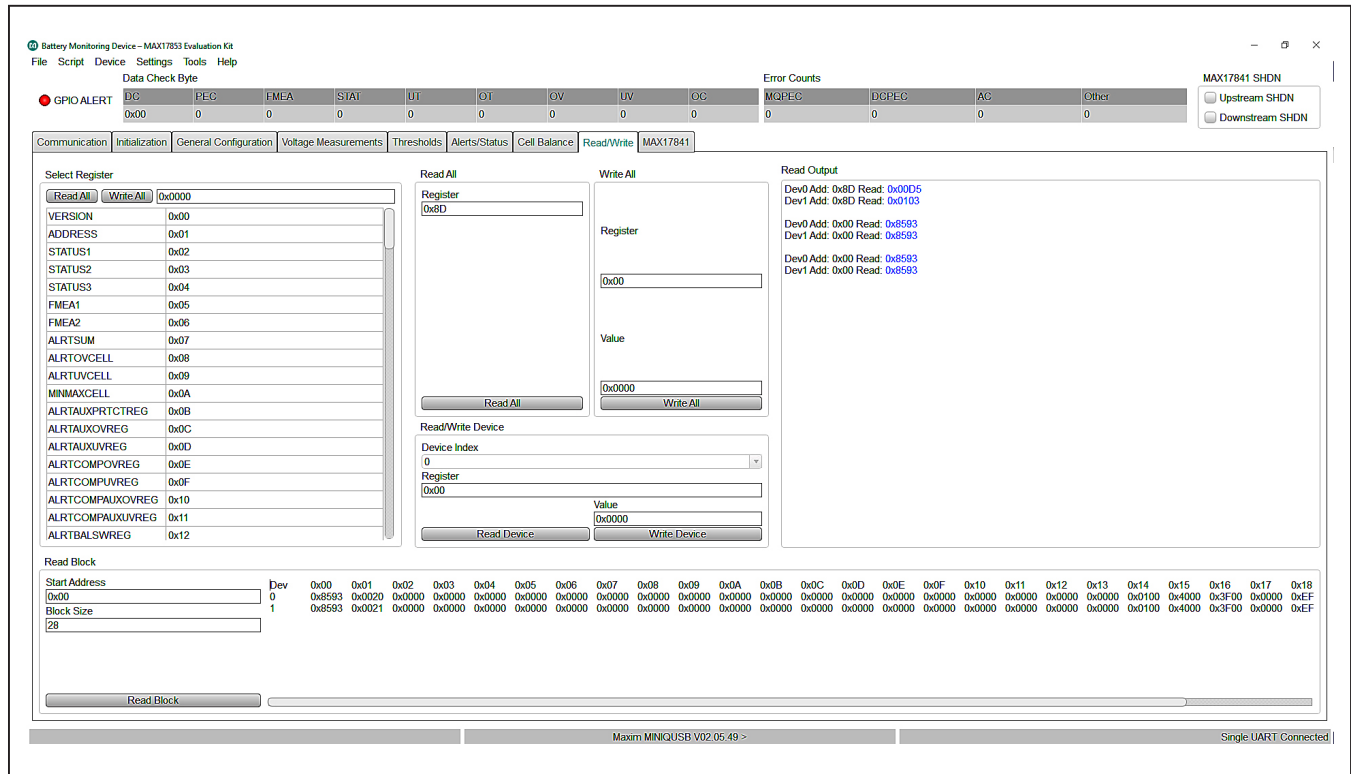

Figure 22. Read/Write Tab
The **Read/Write** tab (Figure 22) provides direct access to the read and write registers of the MAX17853. In the **Read/Write** tab, the GUI offers several read/write options to the user. The **Select Register** group box allows the user to read register contents by highlighting the desired register and clicking the **Read All** button. For example, if the user wants to read the unique ID assigned to each device, scroll down the list and highlight the ID1 (0x8C) register and click the **Read All** button, then highlight the ID2 (0x8D) register and click the **Read All** button. The contents of the registers are then displayed in the **Read Output** group box.
- 6) The EV kit contains a 10kΩ pullup resistor on each of the GP/AUXn pins. To pull up each of the GP/AUXn pins, select the **Read/Write** tab (Figure 22). Using the **Read All** group box, read register 0x62. Set THRM-MODE bit 9 and bit 10 (e.g., if register 0x62 is 0x0000, use the **Write All** box and send 0x0600). Setting the THRM-MODE bit activates the THRM pin on the device (pin no. 29). The EV kit terminates THRM to the 10kΩ pullup resistors.